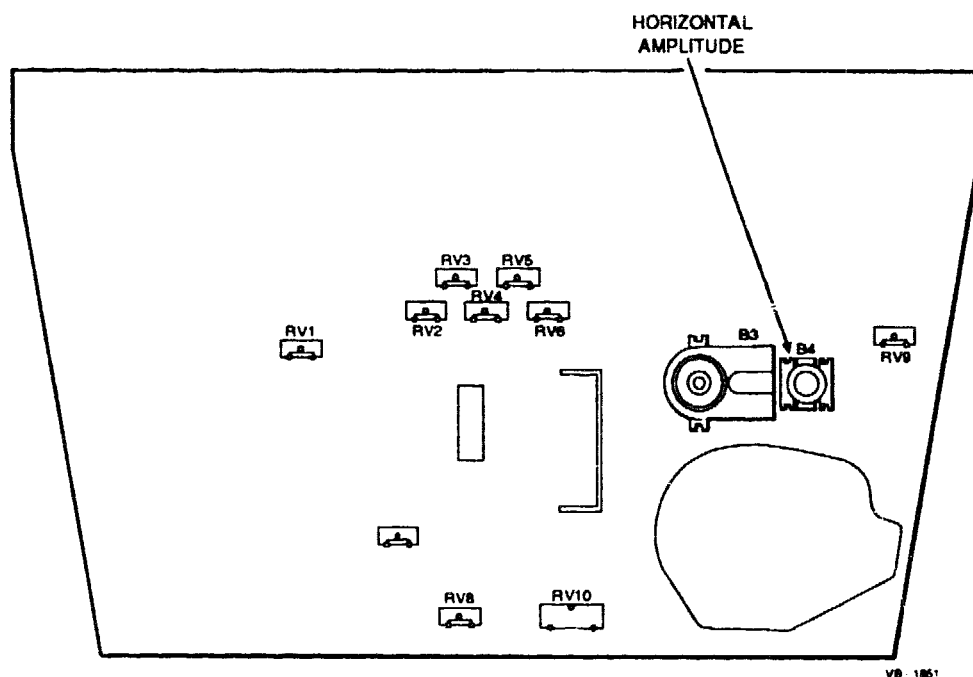

Figure 4-6 Monitor Board Coil B4
2. Adjust coil B4 (Figure 4-6) to obtain an image width of 207 mm (8-3/16 inches).